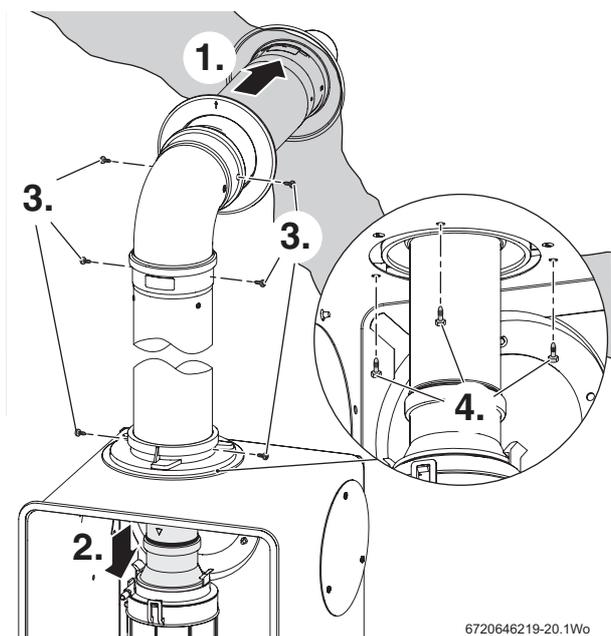

Fig. 22 Fitting the high level horizontal flue
4. Align the holes in the adapter with the holes in the boiler case. Secure the vertical flue adaptor from inside the boiler case, with the screws provided, as shown in the inset of figure 22.